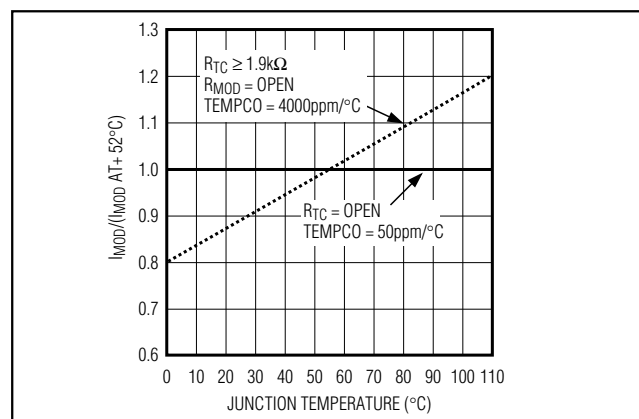

Figure 5. Modulation Current vs. Temperature for Maximum and Minimum Temperature Coefficient
The amplitude of the modulation current is set with resistors at the MODSET and temperature coefficient (TC) pins. The resistor at MODSET (R_{MOD}) programs the temperature-stable portion of modulation current, while the resistor at TC (R_{TC}) programs the temperature-increasing portion of the modulation current. Figure 5 shows modulation current as a function of temperature for two extremes: R_{TC} is open (the modulation current has zero temperature coefficient) and R_{MOD} is open (the modulation temperature coefficient is 4000ppm). Intermediate tempco values of modulation current can be obtained as described in the *Design Procedure* section. Table 3 is the R_{TC} and R_{MOD} selection table.